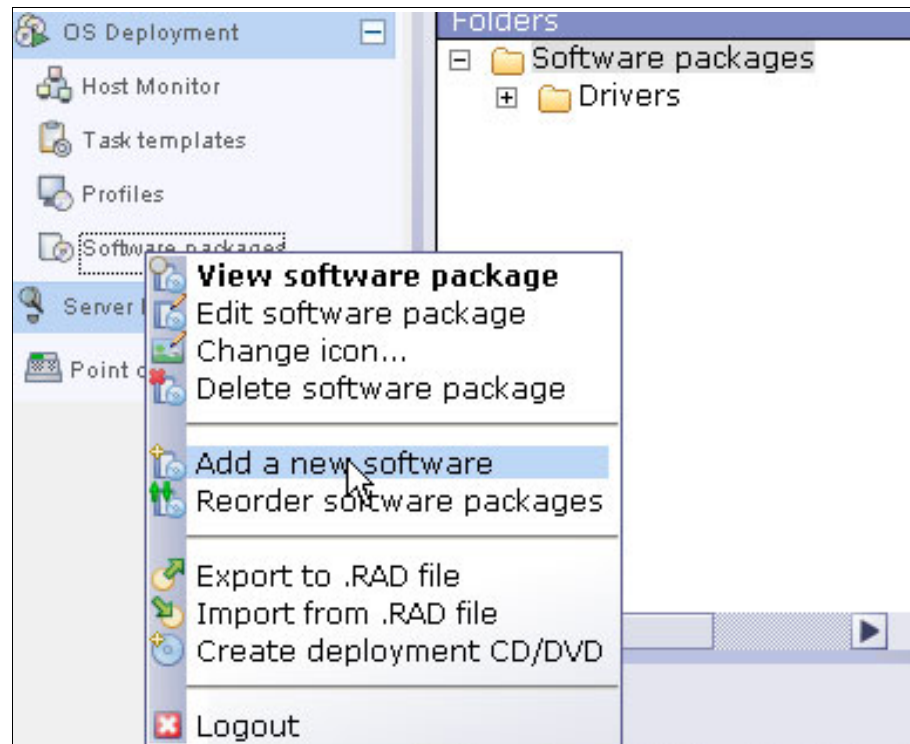

Figure 2-26 Create a new driver software package
1. Login to the Tivoli Provisioning Manager for OS Deployment console and go to **OS Deployment** → **Software Packages**, and click the “**Add a New Software package**” button on the bottom left as shown in Figure 2-26.